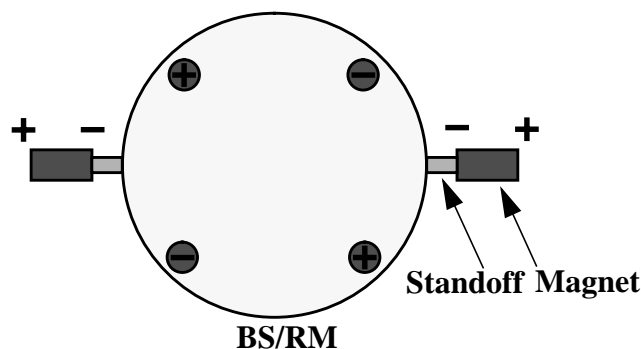

Figure 2: Configuration of the magnet/standoff Assembly.
- Dip conductor wire in epoxy and withdraw it, leaving a tiny amount of epoxy on the wire. Apply epoxy on the wire to the end of a standoff. Optimum adhesive thickness is .003" [.08mm] or a volume of 3.9×10^{-6} in³ [.06mm³]. Epoxy should only cover a diameter of about .02" [.5mm] with a height of .01" [.3mm]. Insert standoff carefully into fixture, making sure not to get adhesive on fixture. Repeat this for three more magnet/standoff assemblies. Make sure that the magnet's poles are in opposite configuration to the magnet next to it in the circle. For example, see Figure 2 below. Lightly tap the top of the magnets. The magnets are placed so that polarities of the magnets alternate; this is to prevent the mass from being shaken in position and orientation, by time-varying ambient magnetic fields.
4. Check that the magnet/standoff assemblies that will be used with this fixture are of the same pole configuration (i.e. the positive pole is glued to the standoff) as shown in Figure 2.